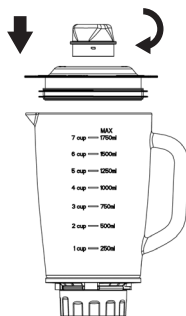

Fig. 4
- 2) Reposition the jar assembly with its opening upwards. Wrap the seal ring 1 around the lid bottom and put the lid onto the jar assembly. Place the measure cup exactly into the lid by fitting the small projection on the both sides of the cup into the slots of the lid and turning the cup clockwise until tight. (See Fig.4)